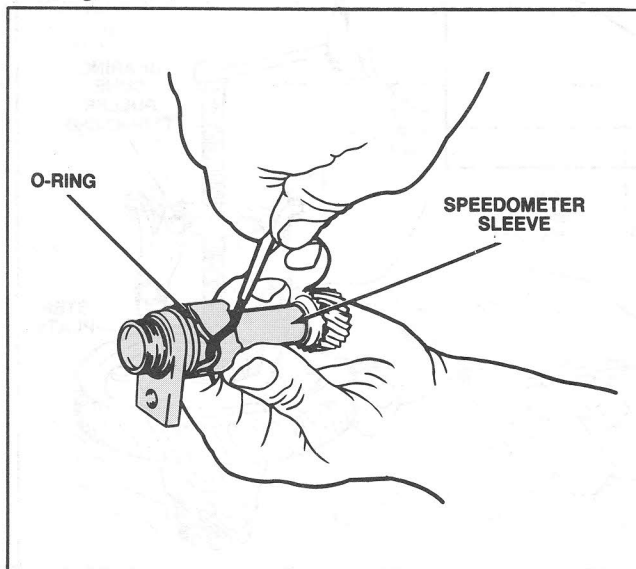

Figure 83 O-ring Installation
3. Install a new o-ring on the speedometer sleeve. (Figure 83).